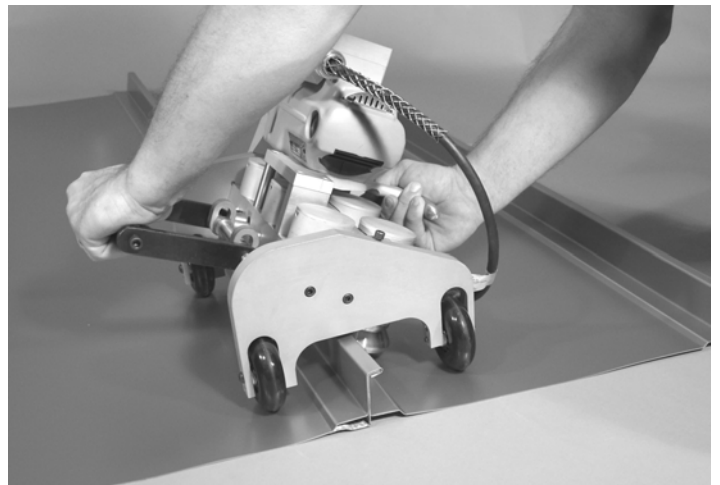

Figure 3: Close the dies on the sidelap in preparation for the seaming operation.
7. Lift the Seamer by the Carrying Handle and Die Handle Lever and position it over the sidelap so that the Roller Dies are correctly positioned over panel legs (Figure 3).